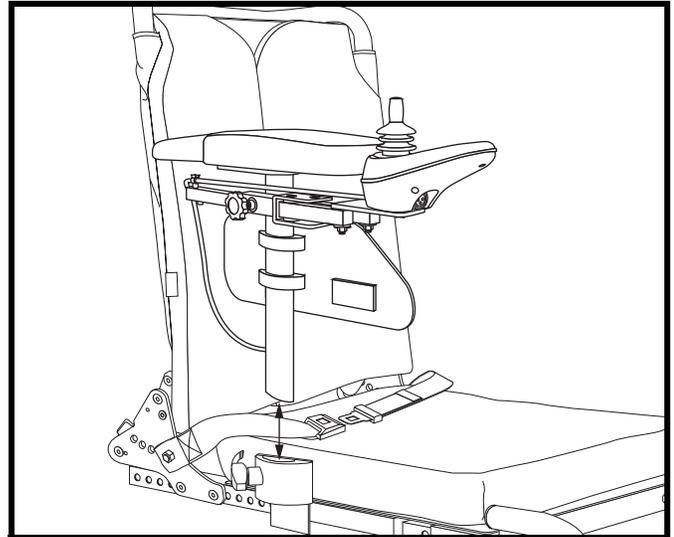

Figure 17. Armrest Removal/Installation
1. Pull out the armrest lock lever. **See figure 17.**
1. Place the armrest assembly into the armrest lock. **See figure 17.**